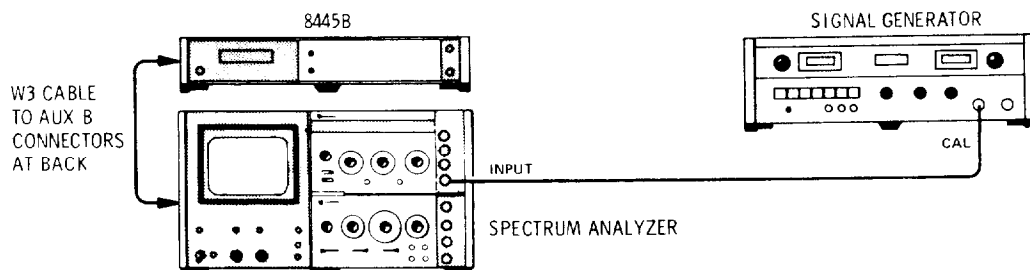

Figure 4-2. Insertion Loss Test Setup, Dc -1.8 GHz
1. Connect test setup as indicated in Figure 4-2 and make the following control settings: